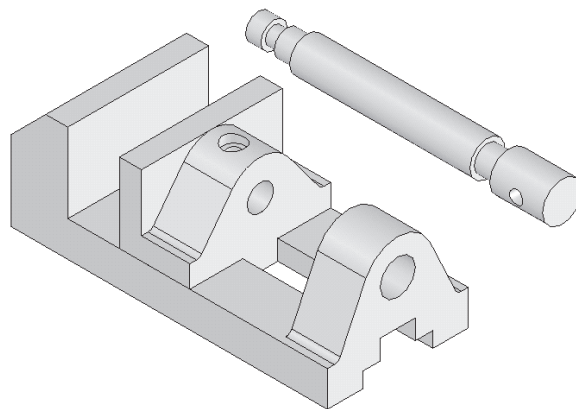

Figure 12-60 Jaw Screw placed in the assembly document
4. Click anywhere in the drawing area to place the Jaw Screw, as shown in Figure 12-60.